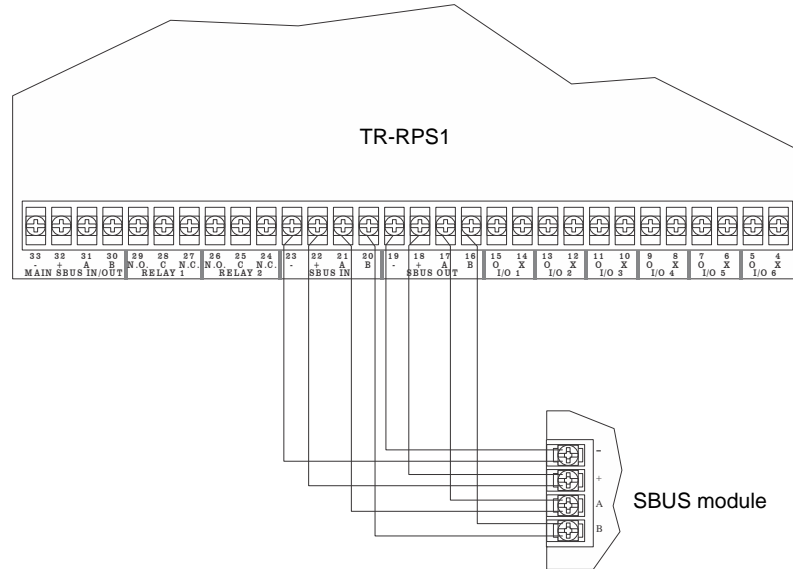
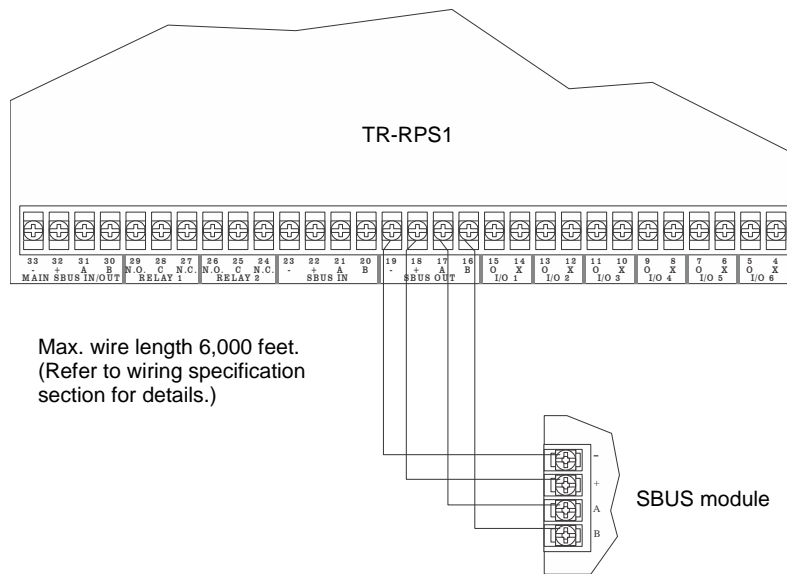

Figure 3.8 SBUS Class A Connection to TR-RPS1
Figure 3.9 SBUS Class B Wiring to TR-RPS1
1. Connect SBUS modules to the TR-RPS1 as shown in Figure 3.8 or Figure 3.9.